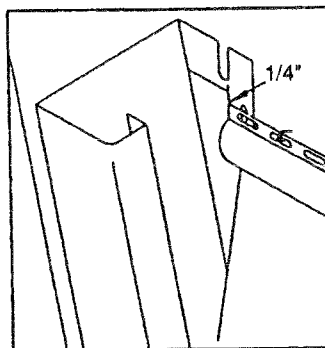

FIG. 6
- C. Lock panel into starter strip. Leave 1/4" space where panel butts corner post or any door or window accessories. This is to provide for the expansion and contraction of the panel. (See Figure 6)